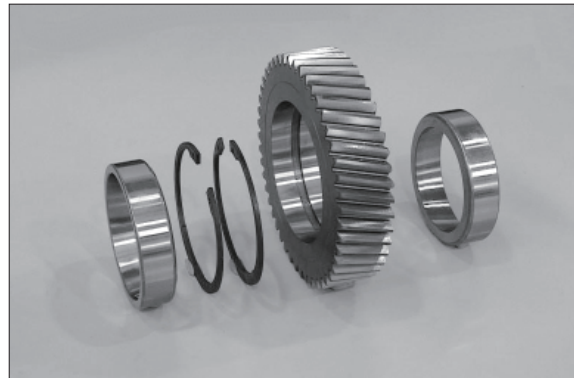

Figure 121
- (12) Preassemble the intermediate gear (7) according to figure 121.